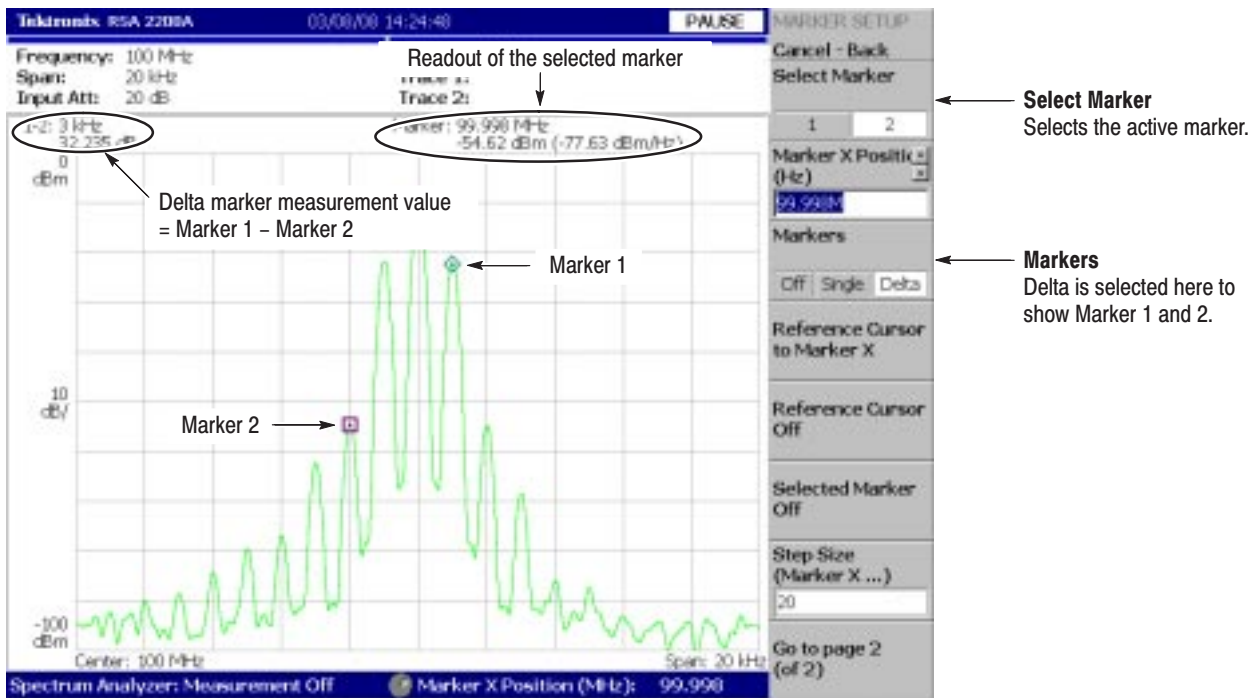

Figure 2-21: Measurement with the delta marker
6. The **Marker X Position** menu item is selected. Using the general purpose knob or the numeric input keypad, move the marker to a measurement point (see Figure 2-21).